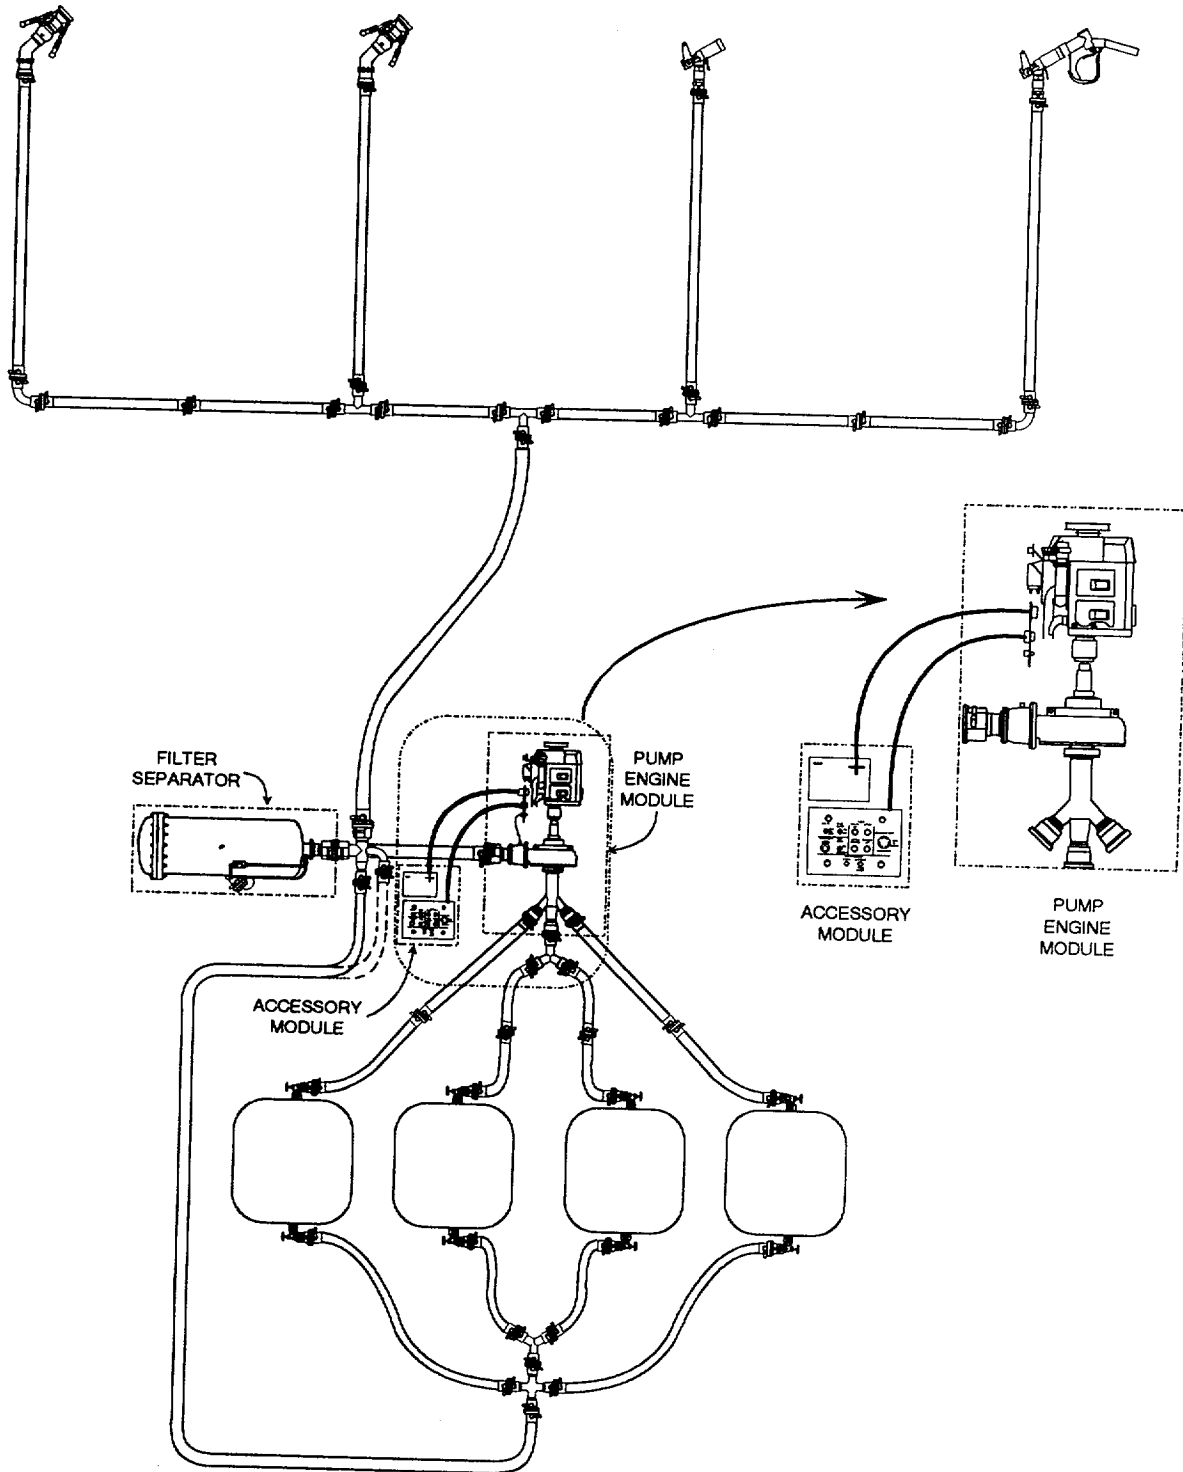

Figure 2-3. Typical AAFARS Setup
Figure 2-3 illustrates a typical setup, showing the operational relationship of the pump-engine module and the accessory module to overall system. The illustration is not drawn to scale. It is similar to the layout diagram displayed on the accessory module and is provided as a visual reference only. Actual emplacement may require a slightly different configuration due to terrain or mission constraints.
- f. Position the accessory module between the pump-engine module and the filtration module as shown in figure 2-3 so operator has a clear view and easy access to all system components.
- (1) START-RUN-STOP switch in STOP position.
- (2) INTAKE HEATER switch in OFF position.
- (3) FAULT LIGHTS switch in BLACKOUT position.
- (4) EMERGENCY STOP switch released.